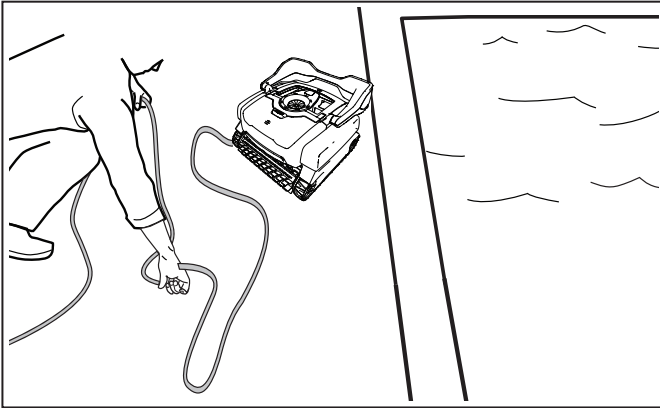

Figure 19. Untangle the Floating cable
1. Starting at the cleaner head. Remove all coils and tangles from the cable (see Figure 19).